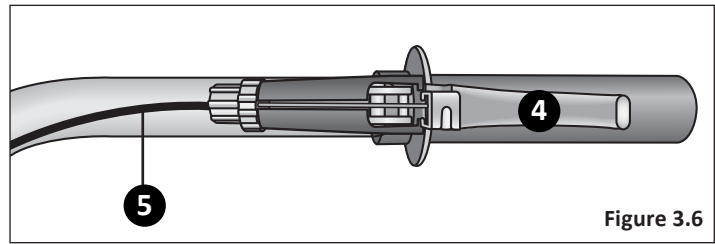

Figure 3.6
- 4** Release the brake lever. **Figure 3.6**